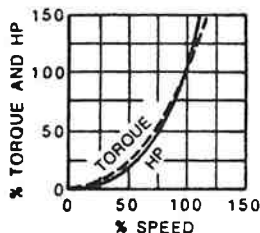

Figure 10-4.
- C. Variable Torque - This type of load is commonly found on centrifugal pump drives and in most fan or blower applications. The torque and horsepower both vary with speed. Variable torque is illustrated in Figure 10-4.